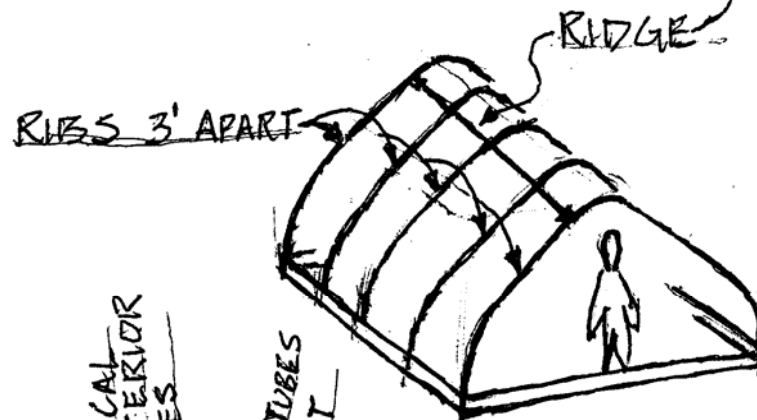

FIG. 2: BASE, RIBS & RIDGE
3. Install ridge into "T's", laying on top of interior ribs (tie the joints) Figs 2 & 3